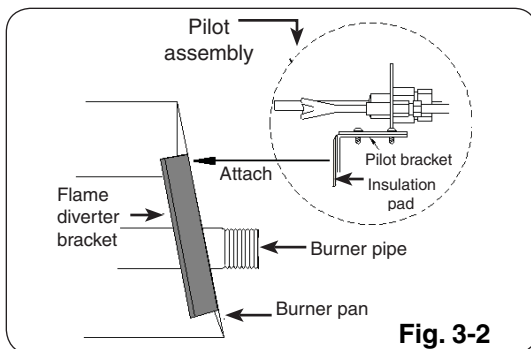

Fig. 3-2
- B. Place flame diverter bracket over the side edge of the burner pan where the Peterson safety control system pilot bracket will be attached. Bracket should be placed approximately 1 1/4" from the back of burner pan (Fig. 3-2, 3-3, & 3-4).